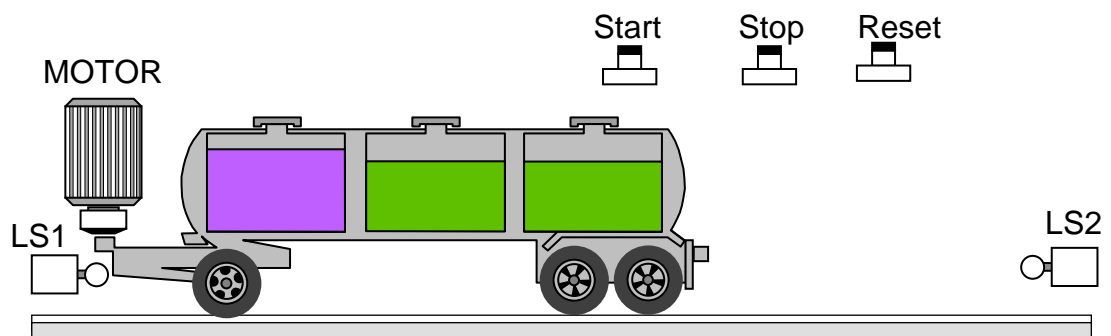
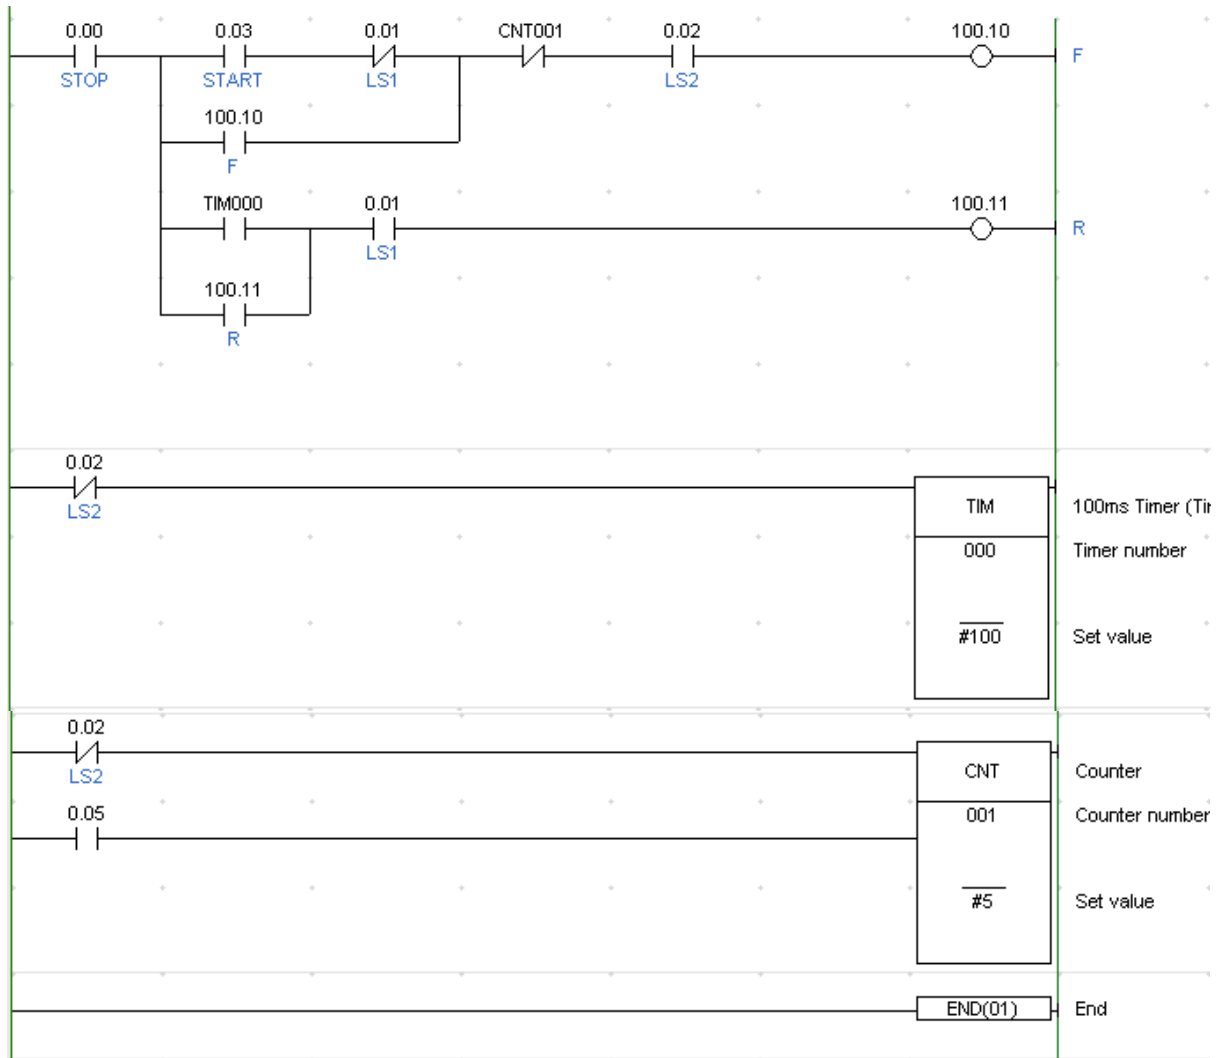

Figure 6: Automatic Carrier
Figure 7: Ladder Diagram
The wagon in **Figure 6** is moved by the forward/reverse motor. The initial position of the wagon is the left position indicated by the limit switch LS1 (NC). When the start push button is pressed (then release), the wagon will move to the right until it touches the right limit switch LS2 (NC), After **10 Second** , the wagon will moves to the left. Once it touches LS1; the wagon will stop. The stop button stops the motor regardless of which direction it is turning. The movement forward/reverse will be limited to **5 times** only. The operator needs to press a reset button before the operation can resume. The ladder diagram for the system is shown in **Figure 7**.
- (a) Convert the ladder diagram in **Figure 6** to Instruction List. (6 marks)